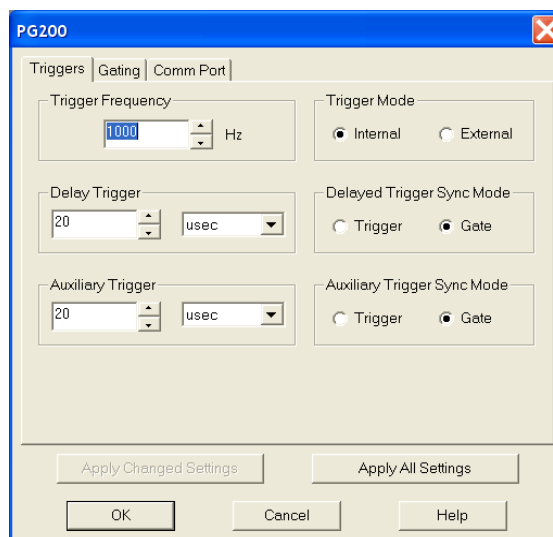

Figure 121. PG200/Triggers tab
8. Click on the **Triggers** tab (Figure 121).